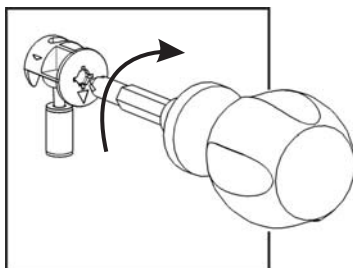

Figure 3
Attach Side Panels (C) and (D) to unit with Cam Locks. (See Figure 3)